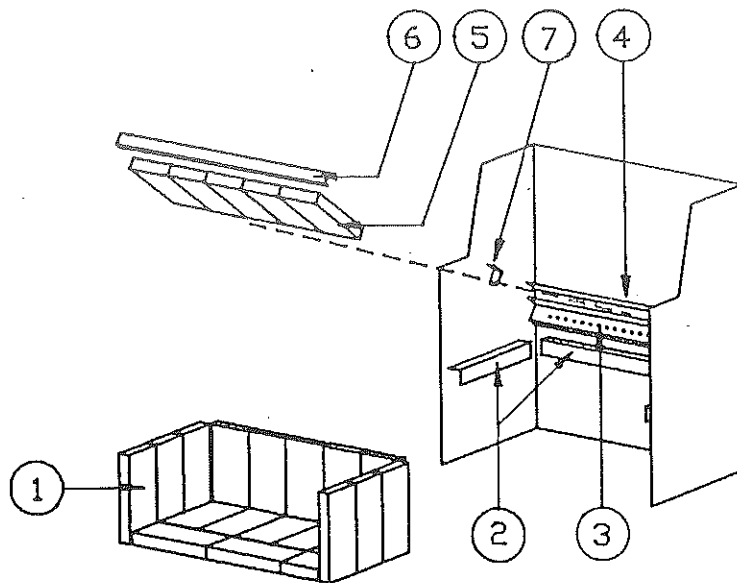

Fig. 12
13. Install the firebrick. See Fig. 12.
d) Place five firebrick (5) into the angled brick bracket (4). These firebrick are positioned at a 45 degree angle. Leave a 1-1/4" space on each end.
e) Place the stainless steel cap (6) over the top edge of the angled firebrick and rest the ends on the brackets (7).